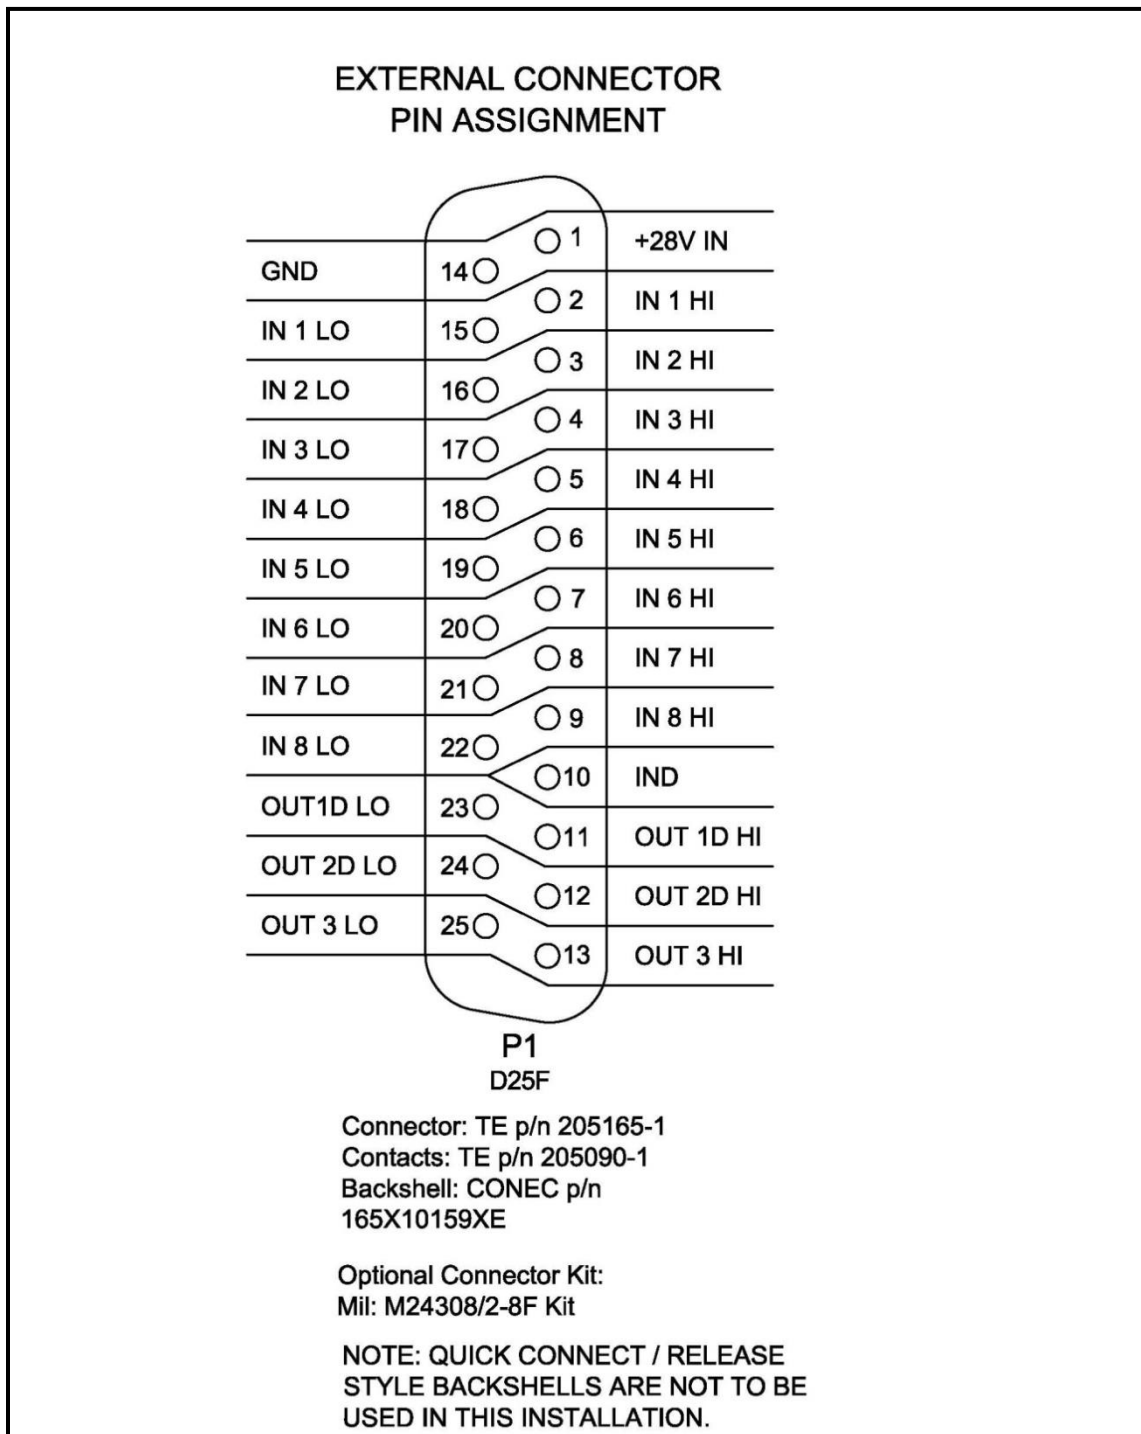
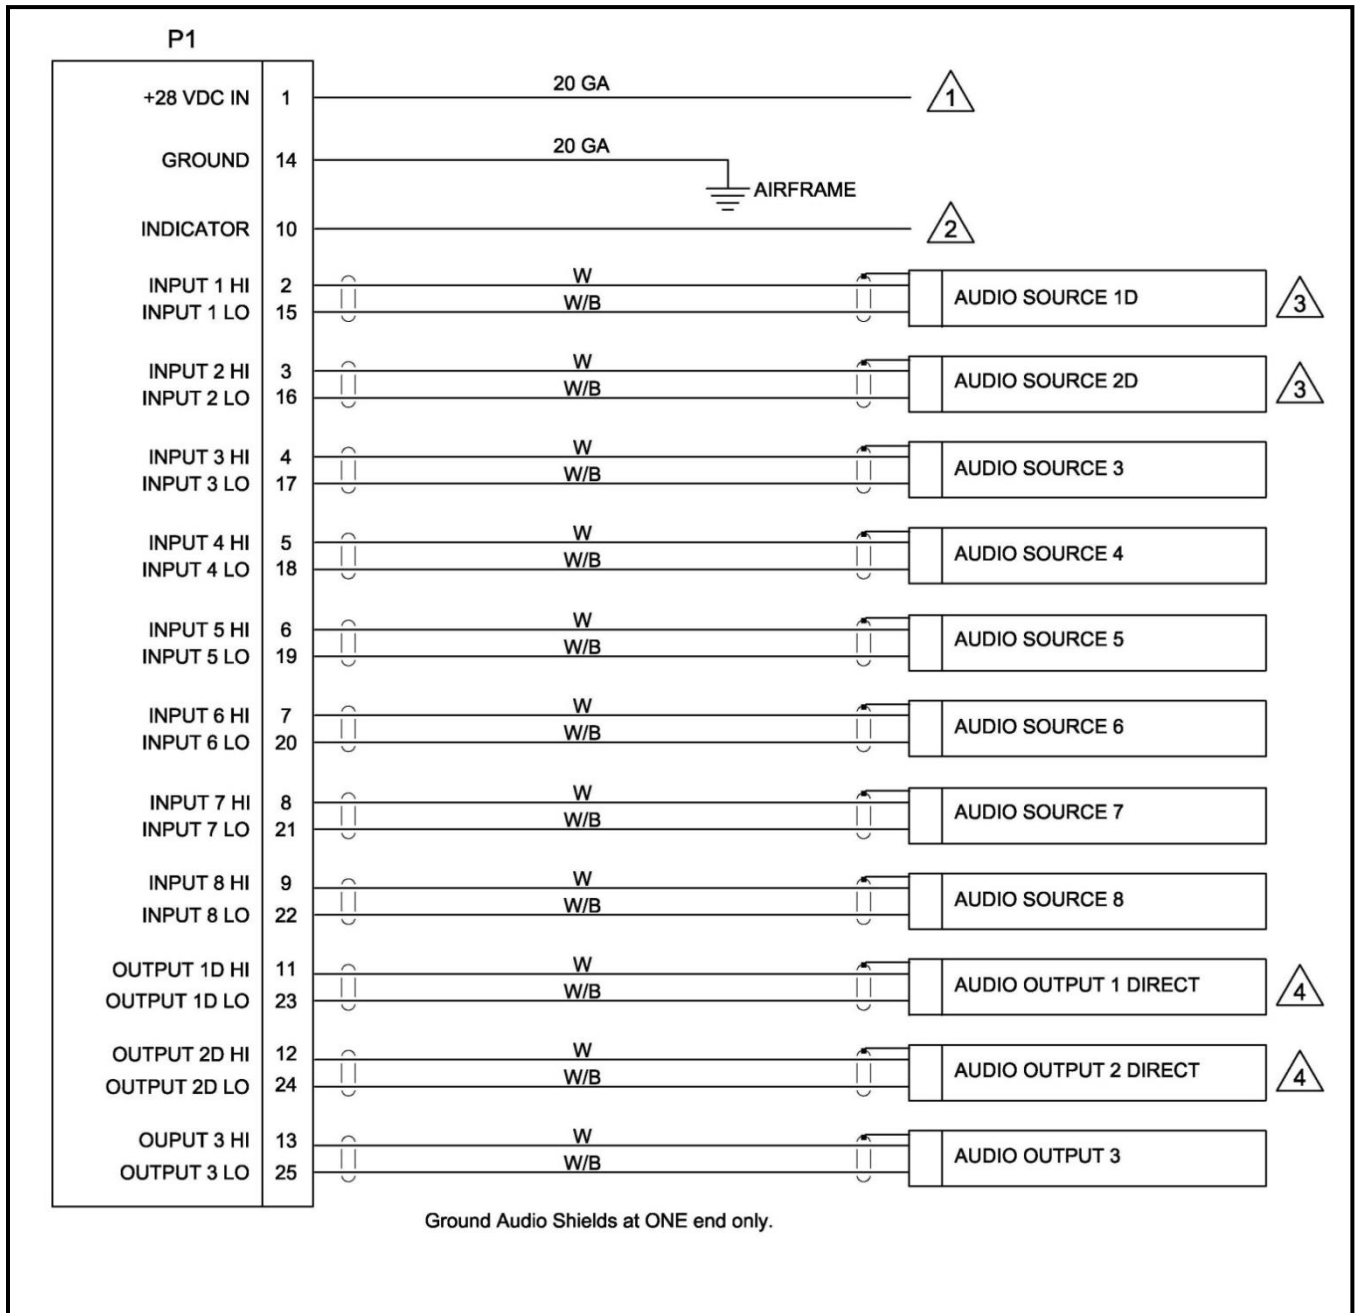

Figure 19: G13120 Audio Mixer Wiring
Figure 20: G13120 Audio Mixer Wiring
- a. Refer to Figure 19 and Figure 20 for cable harness fabrication instructions.
- a. Notes listed below apply to Figure 19 and Figure 20.